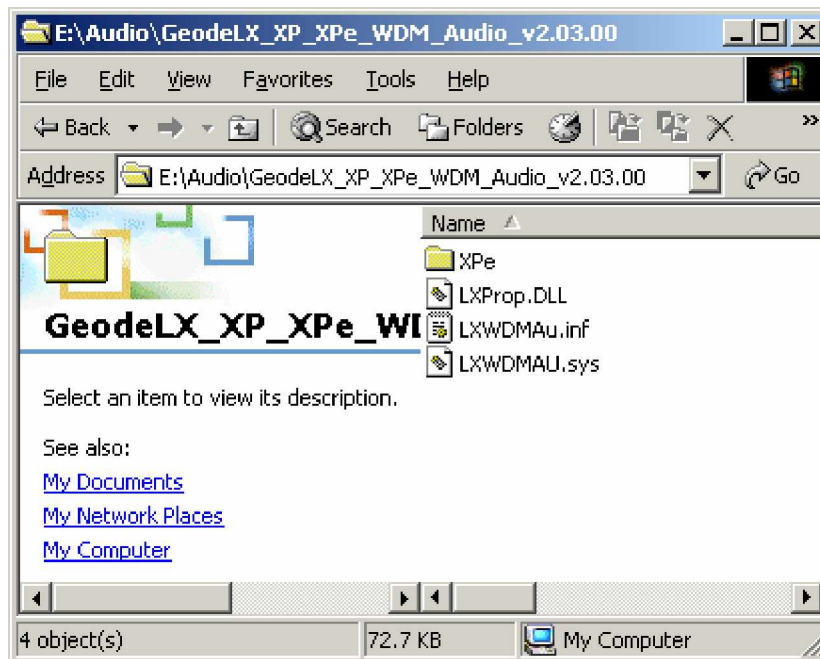

Figure 6-19: Location Browsing Window
Step 8: Select "X:\Audio\GeodeLX_XP_XPe_WDM_Audio_v2.03.00" directory in the location browsing window, where "X:\" is the system CD drive (**Figure 6-19**).